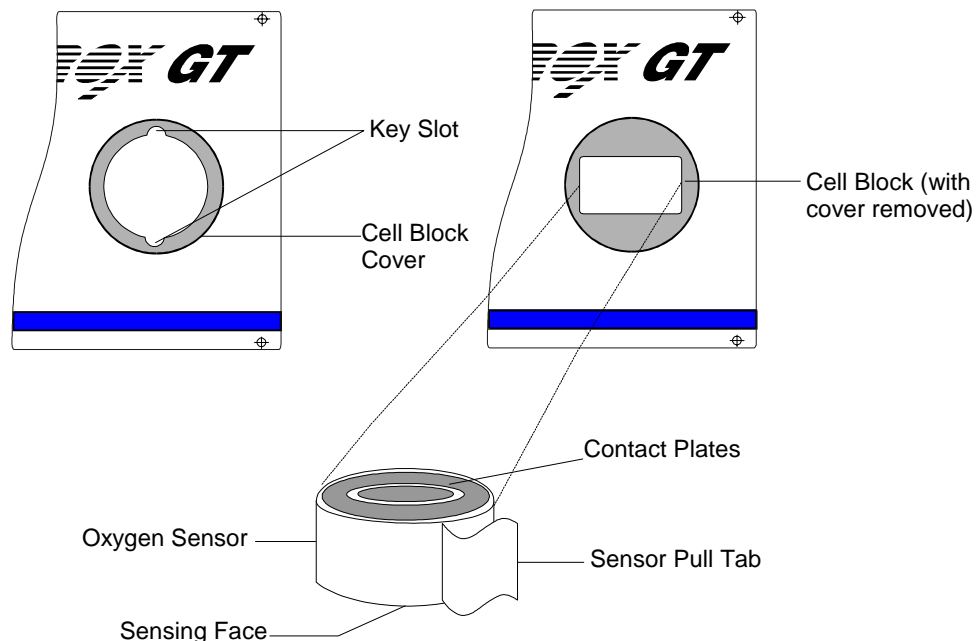

FIGURE 4-1 SENSOR INSTALLATION
10. Cut open the bag being careful not to damage the sensing face of the sensor. Quickly remove the sensor from the bag, remove the shorting clip and install in the cellblock with the contact plates on top and the sensing face on the bottom. Make sure that the pull-tab is facing forward and the writing on the label is right side up (see Figure 4-1).